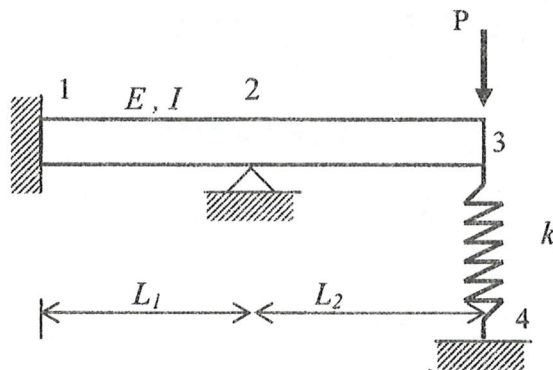

Figure 7.0
- (b) Figure 7.0 shows a system of two beams labeled as node 1, 2 and 3 and a spring labeled as node 3 and 4 subjected to a nodal forces of  $P = 50 \text{ kN}$  at node 3. The beam is fixed at node 1, simply supported at node 2 and spring support at node 3. The spring system can only displace in axial direction and is supported at node 4. Given the value of  $k = 200 \text{ kN/m}$ ,  $L_1 = L_2 = 3\text{m}$ ,  $E = 210\text{GPa}$  and  $I = 2 \times 10^{-4} \text{ m}^4$ .